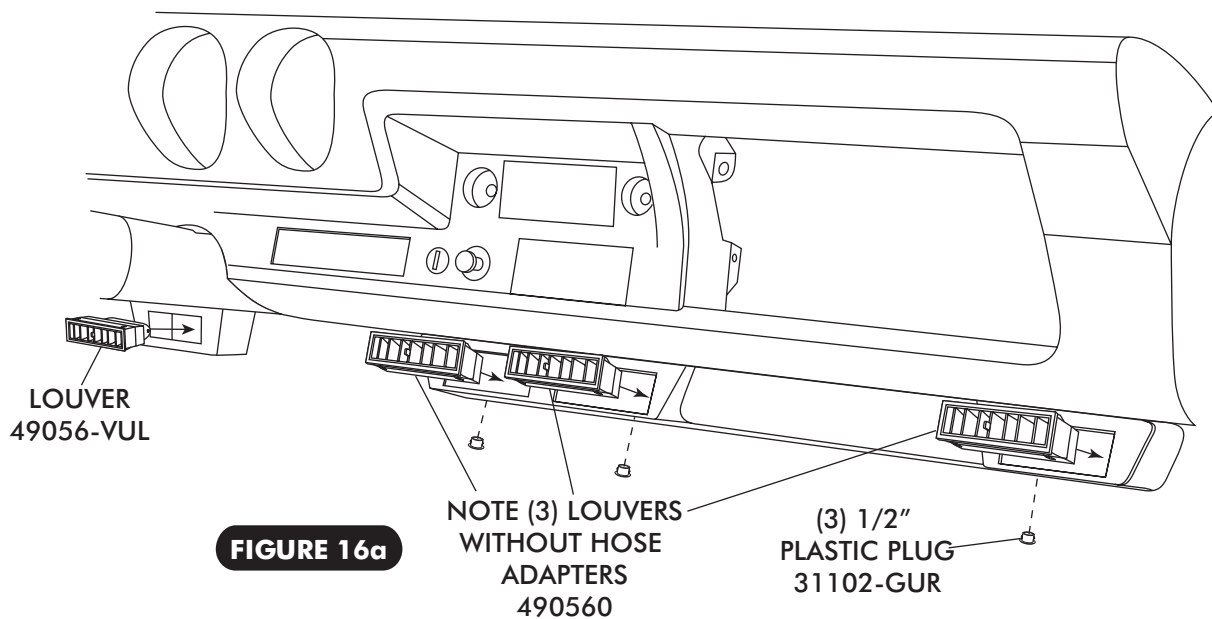

FIGURE 16a
- INSTALL LOUVERS IN HOUSING, SEE FIGURE 16a, BELOW.